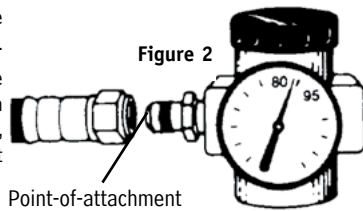

Figure 2
4. Adjust the air pressure at the point-of-attachment (**Figure 2**) to within the approved pressure range. See the Respirator Breathing Air Pressure table in the respirator user manual.